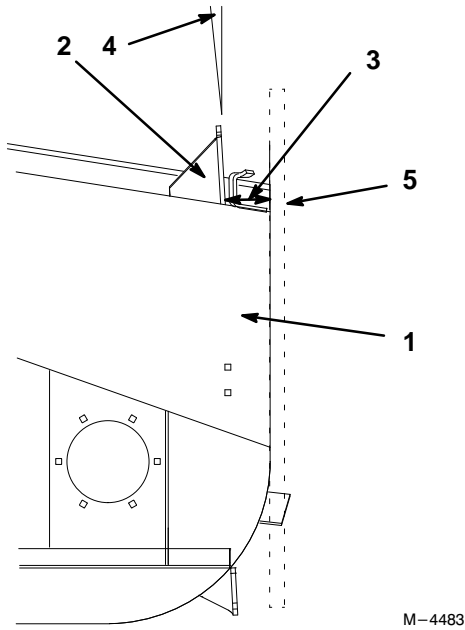

Figure 1
2. Put a straight edge along the right side of the unit. Measure over 3-1/16 in. from the straight edge to locate the position for bracket (Fig. 1).
5. Remove paint from areas that will be welded (Fig. 1 and 2).
6. Weld bracket to the mower deck. Weld at a 3° angle (Fig. 1 and 2).